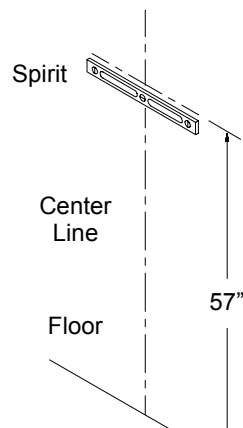

Figure 2
1. Determine and mark the vertical center line for installation of the manifold control unit. (Figure 2).